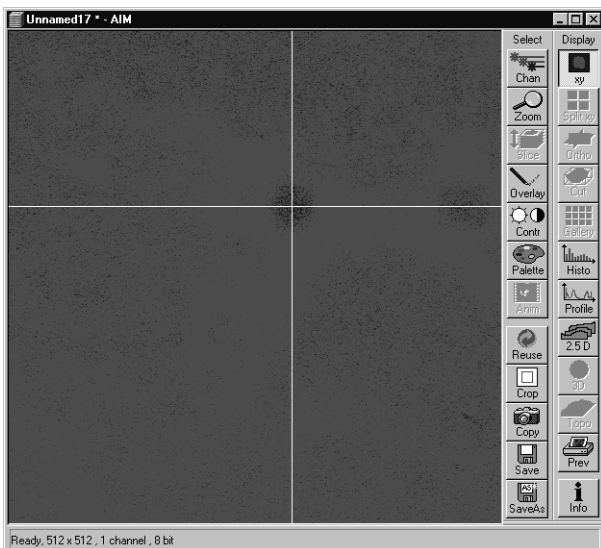

Fig. 5-407 LSM image after bleaching with crosshair
- With the crosshair. Place crosshair above the bleached spot (see Fig. 5-407). We recommend to use the crosshair for positioning your cell.